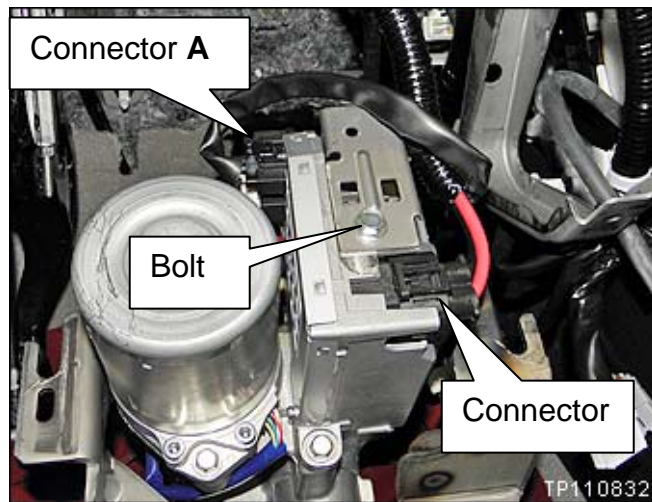

Figure 24
36. Disconnect the 2 electrical connectors shown in Figure 24.
37. Remove the bolt shown in Figure 24.